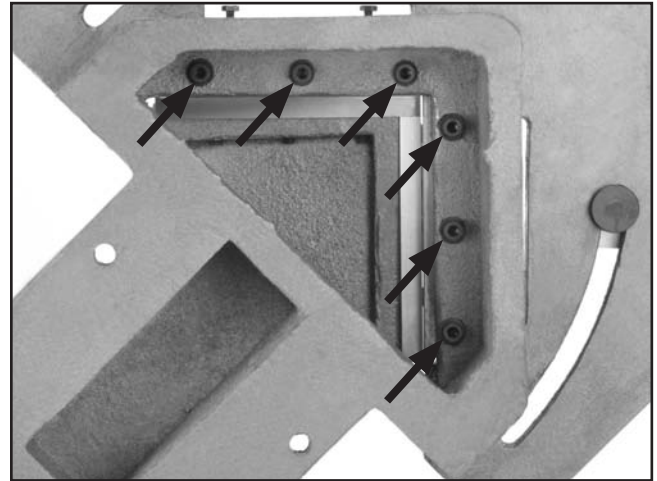

Figure 24. Screws for removing bottom blades.
1. Remove the six cap screws located inside the machine base on the underside of the bottom blades (**Figure 24**).